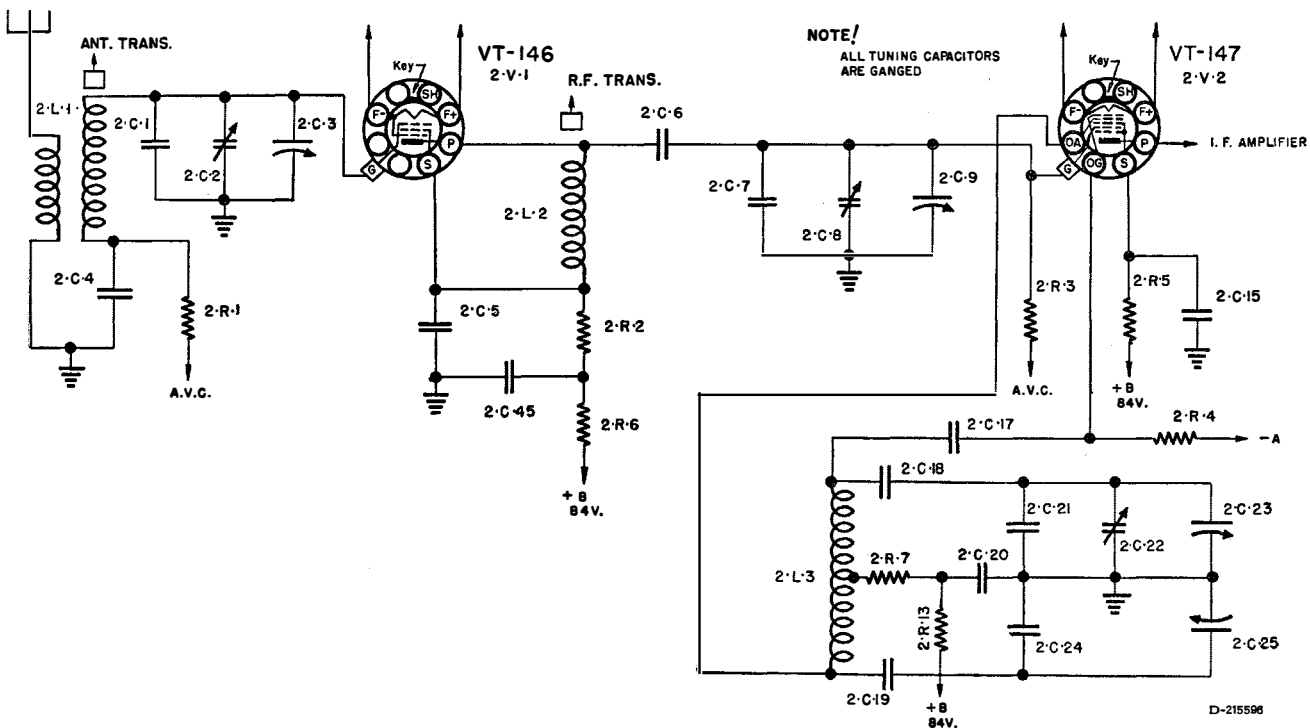

FIG. 10. RADIO FREQUENCY AND OSCILLATOR CIRCUIT
a. Radio Frequency and Oscillator Circuit:—(FIG. 10)
(1) Signals picked up by the antenna are fed into the tuning system through the antenna coil (2-L-1) and impressed on the control grid of the